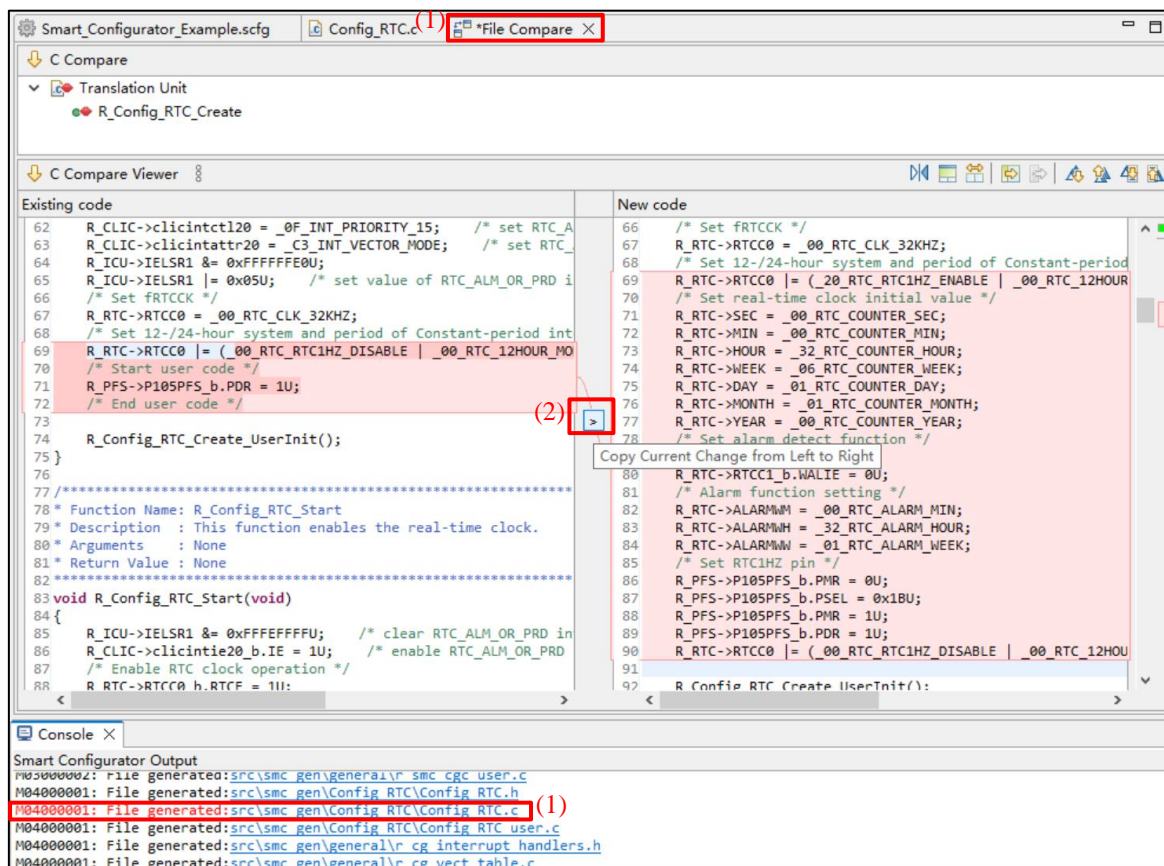

Figure 12-4 Code before Resolving Conflict
- (1) Click on the conflicting file in the console to open the “File Compare” view (Figure 12-4 Code before Resolving Conflict).
- (2) Click on “Copy Current Change from Left to Right” (Figure 12-4 Code before Resolving Conflict).